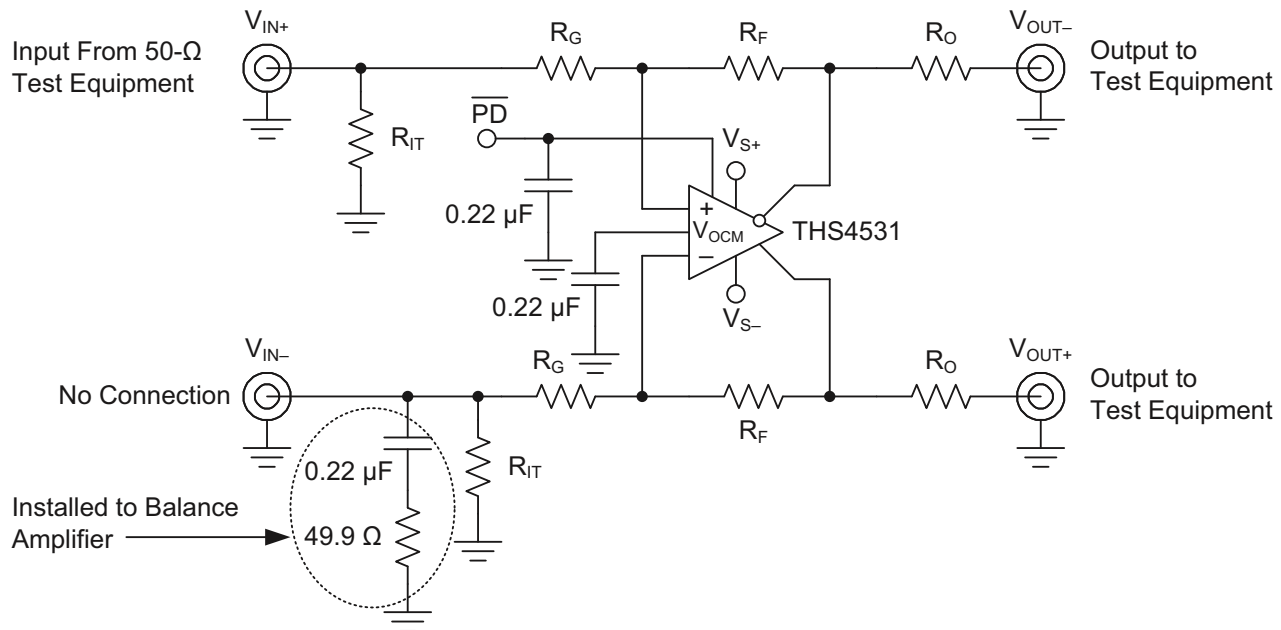
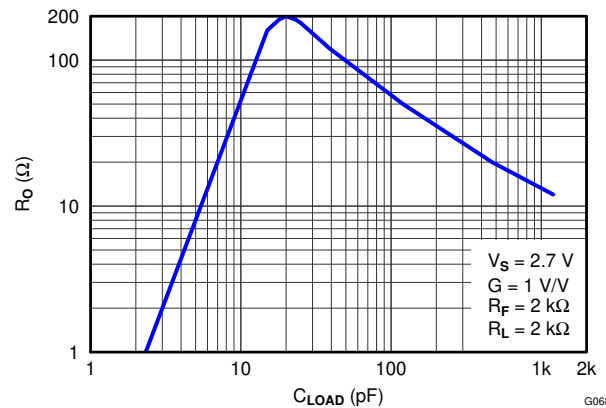
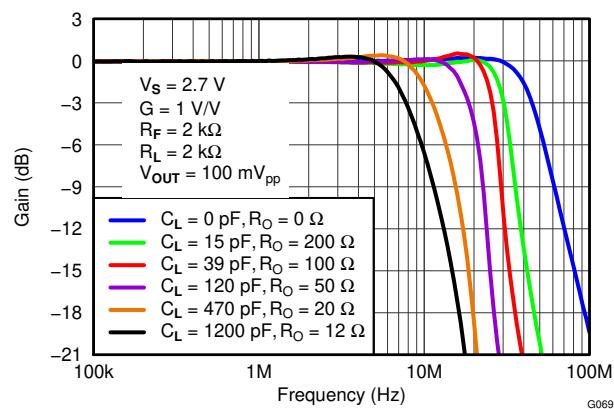

Figure 69. Slew Rate, Transient Response, Settling Time, Z_O , Overdrive Recovery, V_{OUT} Swing, and Turn-On and Trun-Off Test Circuit
Figure 78. Recommended Series Output Resistor vs Capacitive Load for Flat Frequency Response
Figure 79. Frequency Response for Various R_O and C_L Values
The circuit shown in Figure 69 is used to measure slew rate, transient response, settling time, overdrive recovery, and output voltage swing. Turn-on and turn-off times are measured with 50 Ω input termination on the PD input, by replacing the 0.22 μ F capacitor with 49.9 Ω resistor.
Inserting R_O will compensate the phase shift and restore the phase margin, but it will also limit bandwidth. The circuit shown in Figure 69 is used to test for best R_O versus capacitive loads, C_L , with a capacitance placed differential across the V_{OUT+} and V_{OUT-} along with 2 k Ω load resistor, and the output is measure with a differential probe. Figure 78 shows the optimum values of R_O versus capacitive loads, C_L , and Figure 79 shows the frequency response with various values. Performance is the same on both 2.7 V and 5 V supply.
4. A series output resistor is recommended to be placed as near to the output pin as possible. See Figure 78 Recommended Series Output Resistor vs. Capacitive Load for recommended values given expected capacitive load of design.